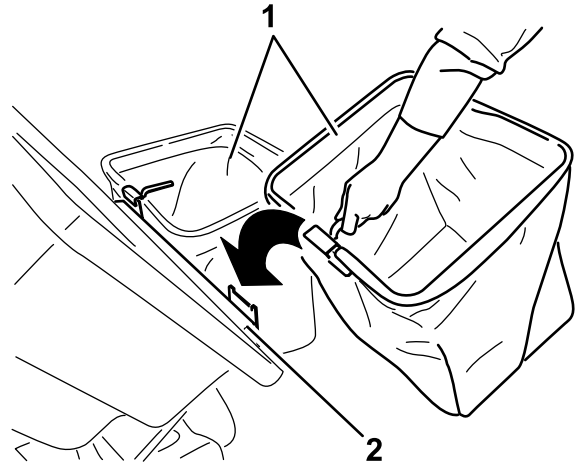

Figure 18
2. Lift the bagger top and install the bags by sliding the bag frame hooks onto the retaining brackets (Figure 18).